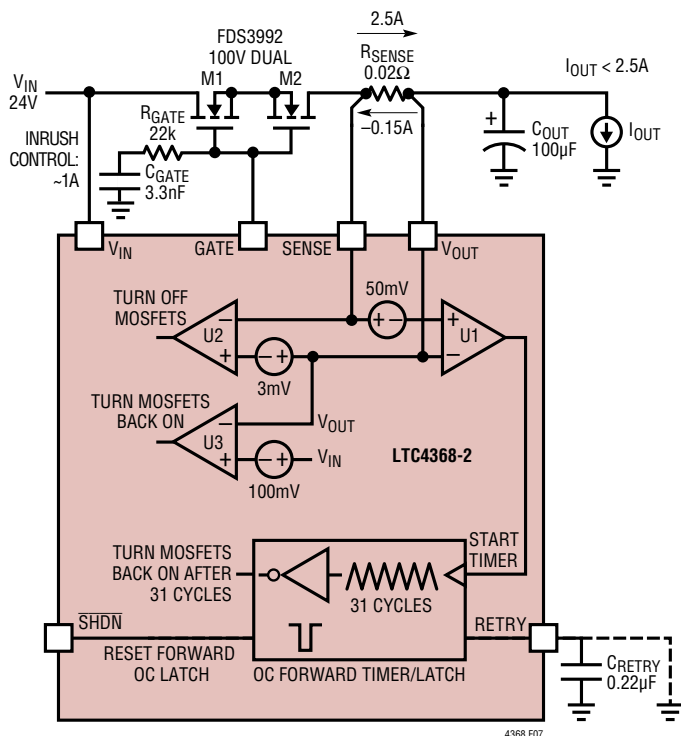
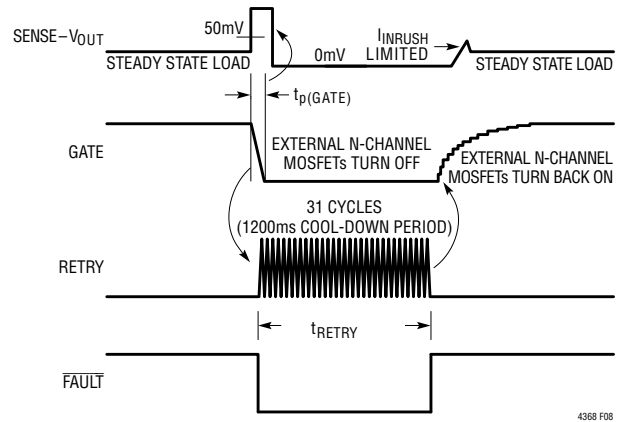

Figure 7. Overcurrent Comparators Monitor 2.5A/-0.15A Current Faults
Figure 8. Forward Overcurrent Fault with $0.22\mu F$ RETRY Capacitor
The 3.3nF C_{GATE} capacitor in the application circuit of Figure 7 limits the inrush current to just over 1A. R_{GATE} prevents C_{GATE} from slowing down the reverse polarity protection circuits. It also stabilizes the fast pull-down circuits and prevents chatter during fault conditions. Set R_{GATE} to 22k for most applications.
Forward overcurrent protection prevents large currents from flowing from V_{IN} to V_{OUT} . This threshold current is determined by the external sense resistor (R_{SENSE}) and an internal comparator (Figure 7, U1) with a 50mV threshold:
For the example of Figure 7, if 2.5A flows to the output across the $20\text{m}\Omega$ sense resistor, the external MOSFETs (M1, M2) are immediately ($8\mu\text{s}$) turned off. This disconnects the load from the input supply.
For the example of Figure 7, the 3.3nF GATE capacitor and the $100\mu\text{F}$ output capacitor limit the inrush current (I_{INRUSH}) to approximately 1A. This means that the output current (I_{OUT}) must be less than 1.5A during turn on in order to avoid a forward overcurrent fault during turn on. Once V_{OUT} has ramped to its final value, the output current is limited to 2.5A .
1. Automatically restart by placing an external capacitor on the RETRY pin. An internal cool-down timer will charge/discharge this capacitor 31 times with a 5.5ms/nF total delay. At the end of this delay, the external MOSFETs are turned back on, thus reconnecting the load to the input supply. The $0.22\mu\text{F}$ capacitor (C_{RETRY}) in the application of Figure 7 yields a 1200ms cool-down timer delay. Note that the adjustable cool-down period provides the user with a means of keeping the external MOSFETs within the rated SOA (safe operating area). See Figure 8 timing diagram.
Reverse overcurrent protection prevents large currents from flowing from V_{OUT} to V_{IN} . There are two options for reverse overcurrent protection thresholds. The LTC4368-1 ($-50mV$) bidirectional circuit breaker allows load current to flow in either direction: from V_{IN} to V_{OUT} or from V_{OUT} to V_{IN} . The LTC4368-2 provides diode-like behavior by making the reverse overcurrent threshold ($-3mV$) significantly smaller than the forward overcurrent threshold ($+50mV$). The reverse overcurrent fault threshold is determined by the external sense resistor (R_{SENSE}) and an internal comparator (Figure 7, U2). For the LTC4368-2 application of Figure 7:
To turn the MOSFETs back on, an internal comparator (Figure 7, U3) detects when V_{OUT} drops $100mV$ below V_{IN} :